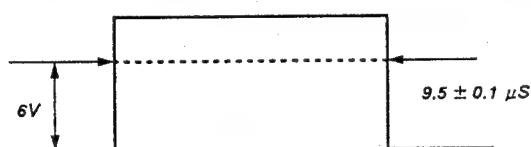

Fig. 2
4. Observe the anode of D516 or TP300 with the oscilloscope and adjust **H-BLK** to obtain the waveform in Fig. 2.